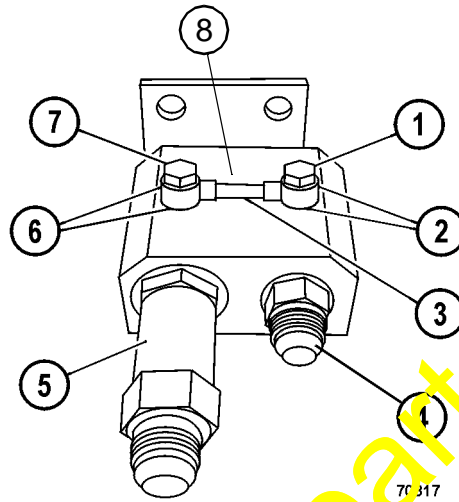

FIGURE 1. FUEL SYSTEM KIT COMPONENTS
Fuel system kit (XA2088) is now available for making improvements to the fuel system on 12V140 engines. The kit contains several components for enhancing fuel system reliability. Refer to Figure 1 and the following table for kit component identification, location, and installation torques. A brief description of kit components and improvements are outlined below.
- The kit contains a check valve that is intended to prevent the introduction of air into the fuel system. This can occur if the drain back valve on the filter is opened and the fuel tank level is below filter level. Air in the fuel system will result in hard starting conditions. Check valve (5, Figure 1) is to be mounted to the fuel inlet manifold and reduces the possibility of this problem from occurring.